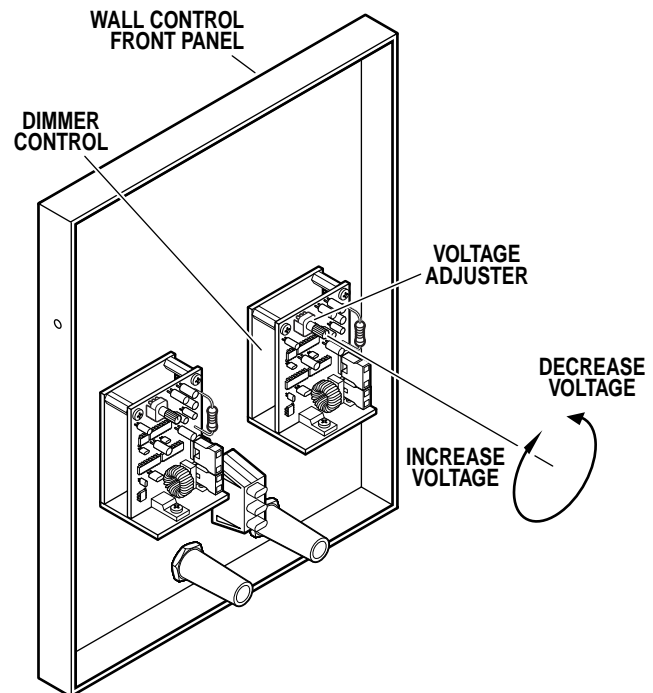

Figure 21. Voltage Adjustment
- b. Adjust the voltage to the lighthouse by turning the adjuster on the back of the appropriate dimmer control in the wall control. See figure 21.